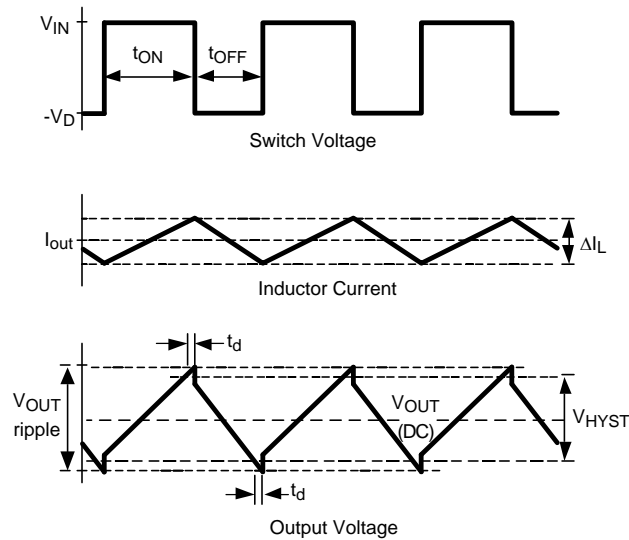

Figure 9. Hysteretic Waveforms
With the PFET on, the input supply charges C_{OUT} and supplies current to the load through the PFET and the inductor. Current through the inductor ramps up linearly, and the output voltage increases. As the FB voltage reaches the upper threshold (reference voltage plus hysteresis) the output of the comparator goes high, and the PGATE turns the PFET off. When the PFET turns off, the catch diode turns on, and the current through the inductor ramps down. As the output voltage falls below the reference voltage, the cycle repeats. The resulting output, inductor current, and switch node waveforms are shown in Figure 9.
- $t_{off_{min}}$ is the sum of the blanking time, the propagation delay time, and the PFET delay time (see Figure 9) (2)
7.3.6 Enable Pin (EN)
Capacitors with high ESL (equivalent series inductance) values should not be used. As shown in Figure 9, the output ripple voltage contains a small step at both the high and low peaks. This step is caused by and is directly proportional to the output capacitor's ESL. A large ESL, such as in an electrolytic capacitor, can create a step large enough to cause abnormal switching behavior.